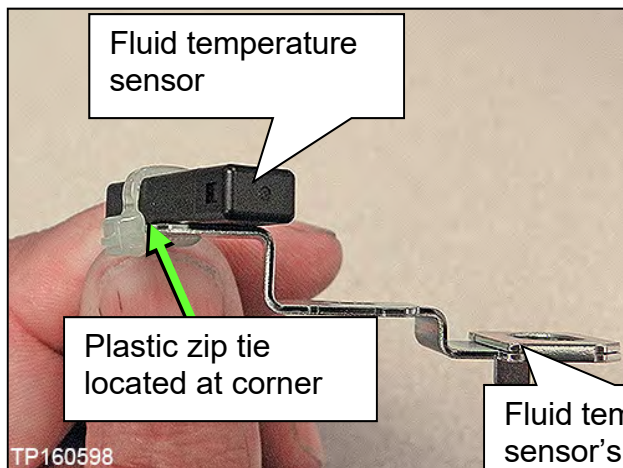
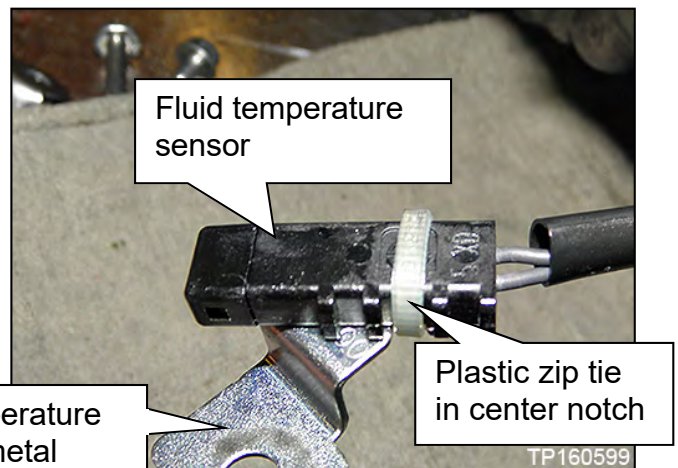

Figure 23
Figure 24
- a. Cut the old plastic zip tie with an appropriate tool to remove the fluid temperature sensor's metal bracket from the terminal harness assembly (Figure 24 and Figure 23).
- Locate the plastic zip tie at the center notch of three notches on the fluid temperature sensor (Figure 24).
- Tighten the plastic zip tie so that it is oriented as shown in Figure 23.